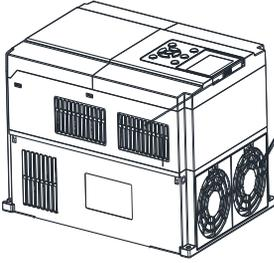

Fig 10-1 (a) Remove the fan covers
2. Figure 10-1 (b) shown in order to come up with the fan cover and fan, and then press the fan as shown in the medial elastic snap lead terminal, while a little harder to pull the fan lead terminal.